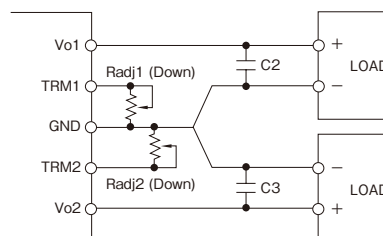

Fig.3-3: Connection for output voltage trim down
- GND terminal: to adjust to lower output voltage; Fig. 3-3.